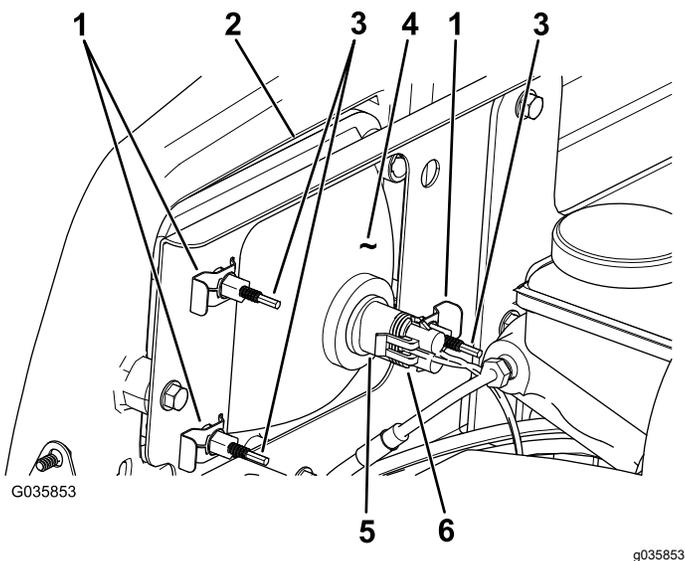

Figure 45
3. Disconnect the electrical connector for the harness from the connector of the lamp assembly (Figure 45).
4. Remove the speed clips that secure the headlight to the headlight bracket (Figure 45).
5. Remove the headlight assembly by moving it forward through the opening in the front bumper (Figure 45).
6. Install the new headlight through the opening in the bumper (Figure 45).
8. Connect the electrical connector for the harness to the connector of the lamp assembly (Figure 45).
2. At the back of the headlight assembly, rotate adjustment screws (Figure 45) to pivot the headlight assembly and align the position of the cast beam.